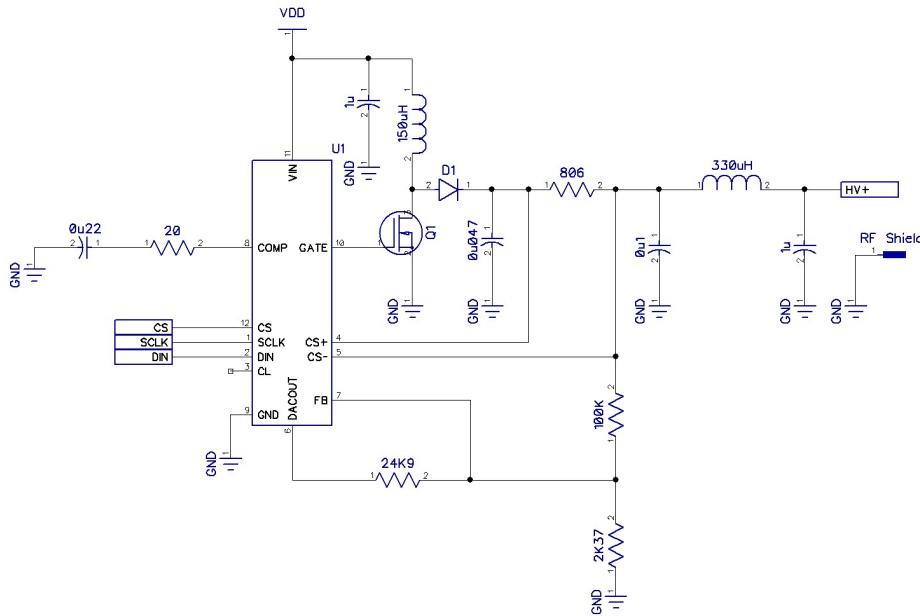

Figure 1.11: Schematic for high voltage boost converter.
The module uses a MAX1932 APD bias voltage boost converter to create and maintain the output voltage. The voltage range, and step size is dictated with setting R2, R3, and R4. The minimum and maximum voltage set using the equations for on page 7 of the datasheet, and there are 8 bits (256) intermediate values that are possible the corresponding schematic is shown in Figure 1.11. The high switching portion was designed with general SMPS design requirements (short high current loops, separated ground planes, EMI shielding) providing a low ripple output ($< 5 \text{ mV}_{pp}$ ripple) and no significant back EMF.